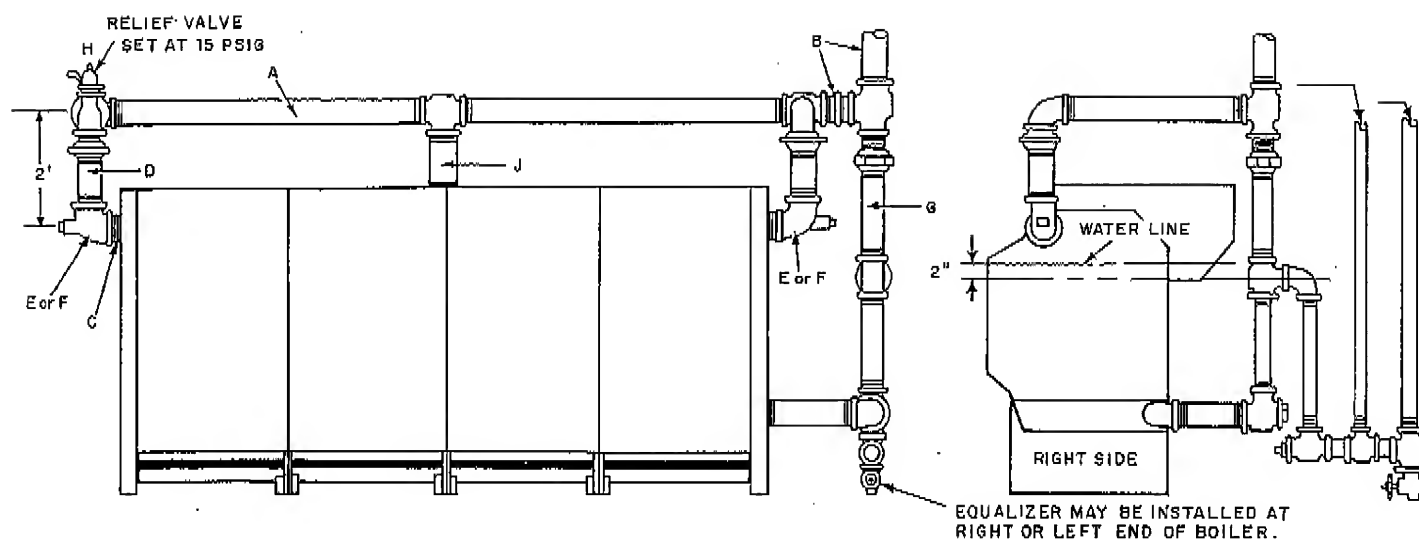

Figure 18 - Steam Header Proportions
2. The minimum steam header proportions should be as shown in Figure 18.